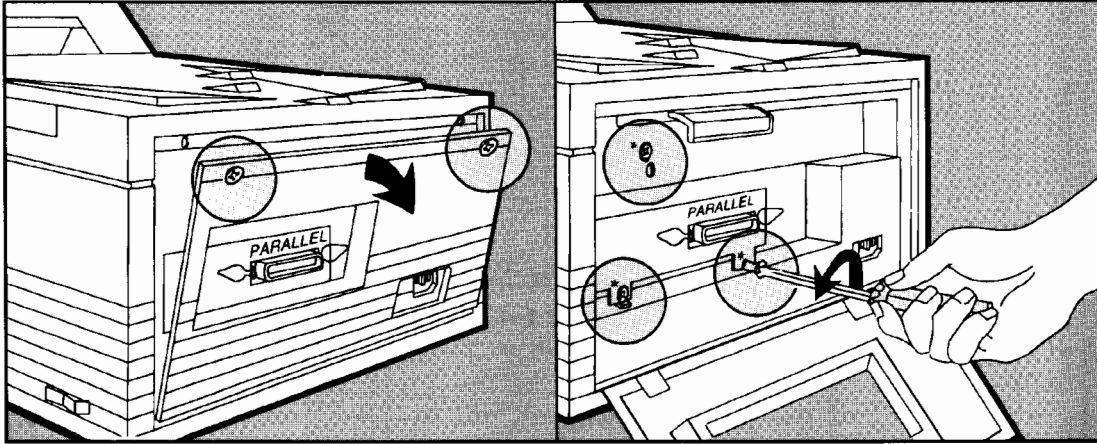

Figure F-3.
4. Open the hinged rear access panel by loosening the two captive screws. Be careful to loosen only these two screws (see the left half of figure F-3).
6. Remove the interface plate by removing the three screws that are indicated on the plate by asterisks (see the right half of figure F-3).